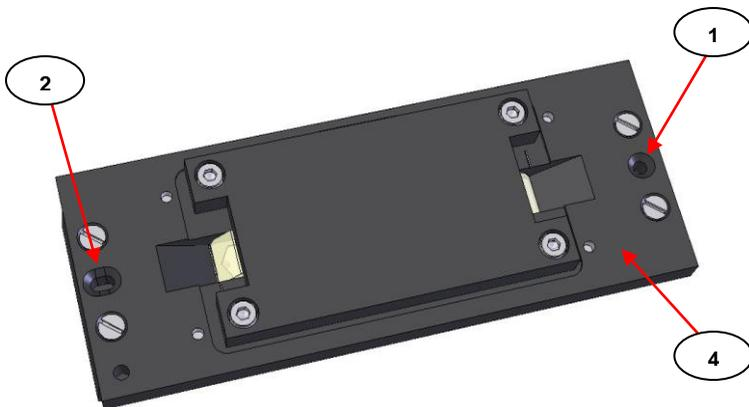
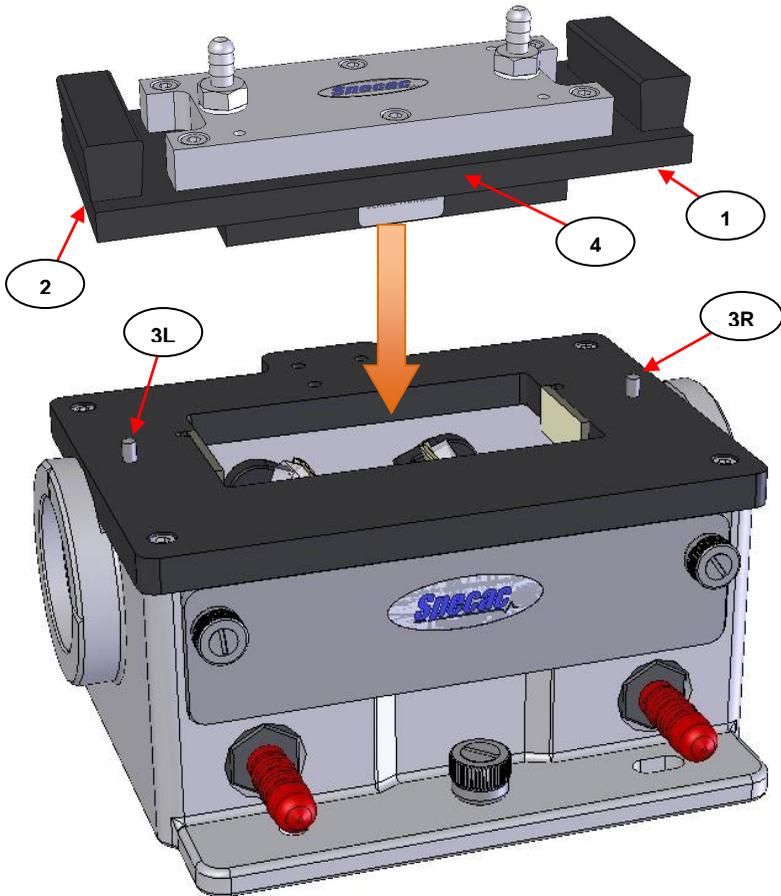

Fig 2. Round and Slot Location Holes on Underside of Gateway™ ATR Flow Through Top Plate
Fig 3. Fitting of Gateway™ ATR Flow Through Top Plate to the Gateway™ Optical Unit
The Gateway™ ATR Flow Through Top Plate fits onto the top of the Gateway optical unit via alignment of the round hole (1) and slot hole (2) on the underside of the Top Plate over the two fixing location pins (3) on the optical unit. (See Fig 2 and Fig 3.)